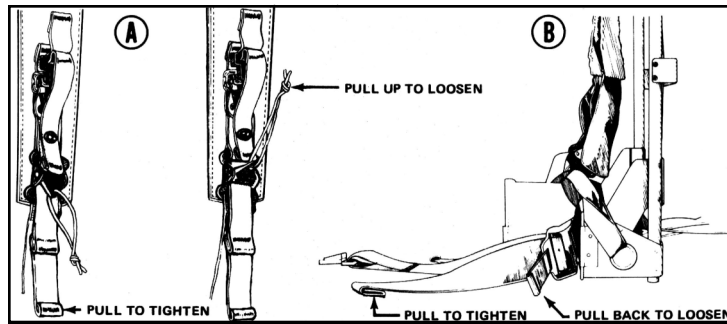

Figure 8-29: Adjusting Shoulder and Waist Straps
**Adjusting Shoulder and Waist Straps.** Adjust the shoulder and waist straps after you have put on the frame with the load you are going to carry. Each set of straps has adjustment buckles (Figure 8-29).
**Shoulder straps.** To lift the load on your back, shorten the strap by pulling down on the loose end of the webbing (A). To lower the load, lengthen the strap by pulling up on the cord.
**Waist strap.** To tighten the waist strap, pull the loose end of the strap on either side forward (B). To loosen the waist strap, pull the web strap on either buckle to the rear.